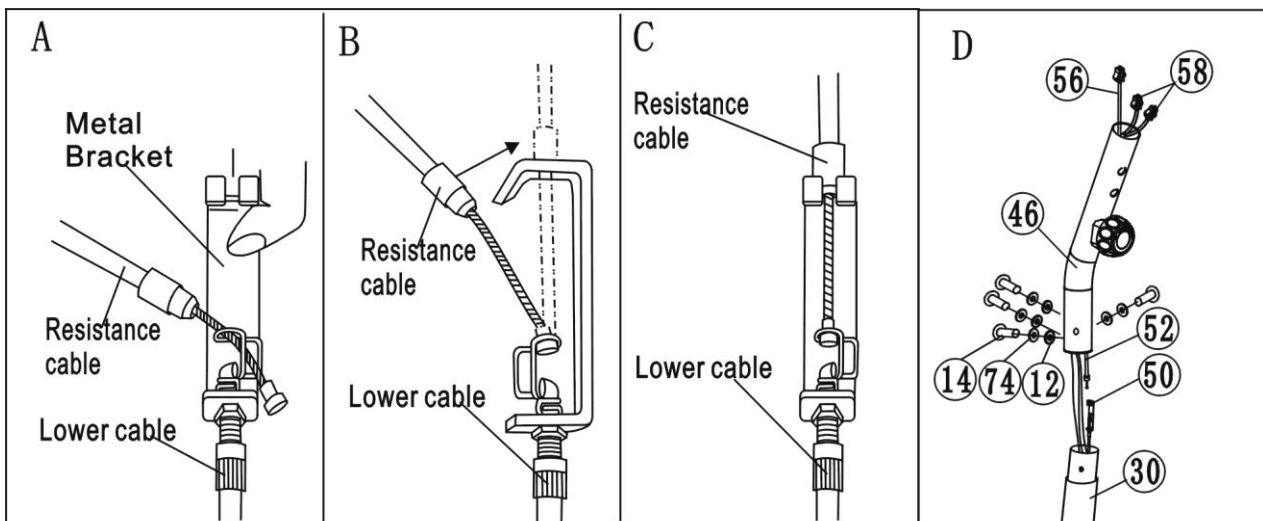

Figure 3
Put the cable end of the resistance cable for the Tension control (56) into the spring hook of Tension control wire (50) as shown on drawing A of figure 3.
Pull the resistance cable for the Tension control (52) up and force it into the gap of metal bracket of Tension control wire (50) as shown on drawing B of figure 3.
Connect the resistance cable of Tension control (52) with the Tension control wire (50) completed as shown on drawing C of figure 3.
Insert the Front upright tube (46) into the tube of Main frame (30) and secure it with four Bolts (14), Spring washerφ8(74) and Arc washers (12). See drawing D of figure 3-D.